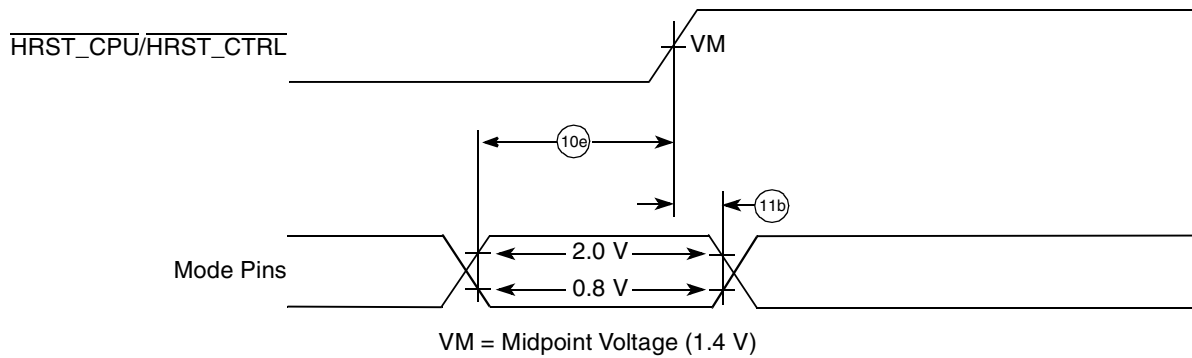

Figure 13. Input Timing Diagram for Mode Select Signals
5. All mode select input signals specifications are measured from the TTL level (0.8 or 2.0 V) of the signal in question to the $\text{VM} = 1.4$ V of the rising edge of the $\overline{\text{HRST_CPU/HRST_CTRL}}$ signal. See Figure 13.
Figure 13 shows the input timing diagram for mode select signals.